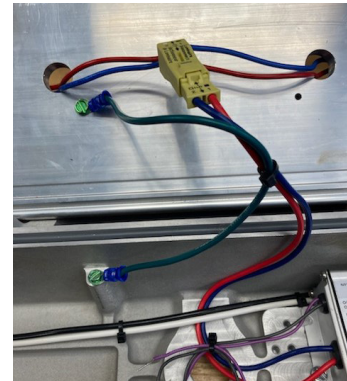

Figure 4. PLLA4 LED light engine fitting wire routing
5. Locate and remove wire tie used to secure LED light engine input wiring (see Figure 4). Use care in removing wire tie so damage is not done to any wires
12. Route LED light engine and LED driver output wiring and install tie wrap as directed in Figure 4. Trim excess tie wrap material